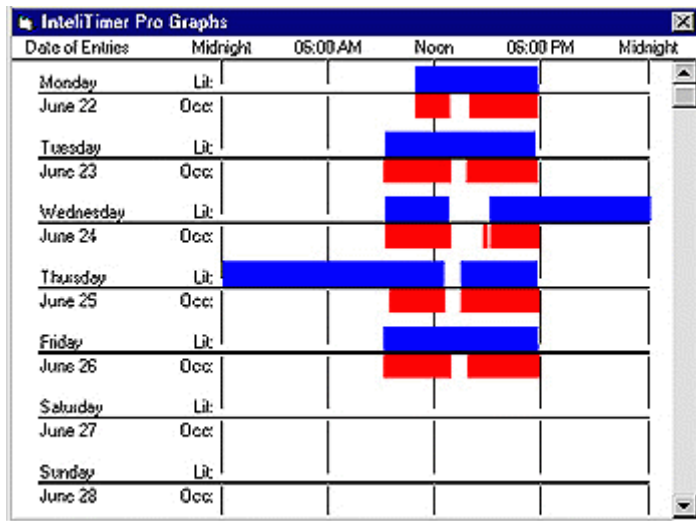

Figure 4 Sample screen showing graph of lighting and occupancy patterns.
5. **For potential energy savings calculations and a graph showing lighting and occupancy patterns (See *Figure 4* below), look under the *View* menu heading.**